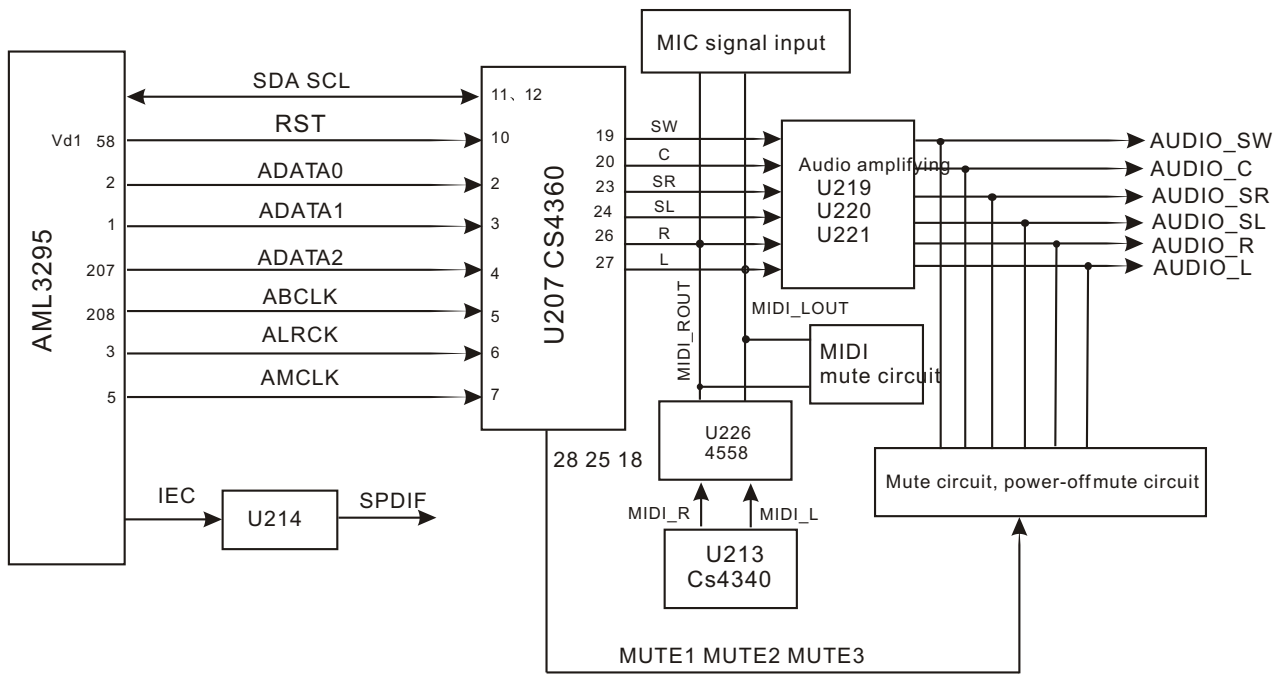

Figure 3.2.15.1 Audio circuit diagram
1. Audio circuit is shown as the following figure 3.2.15.1: